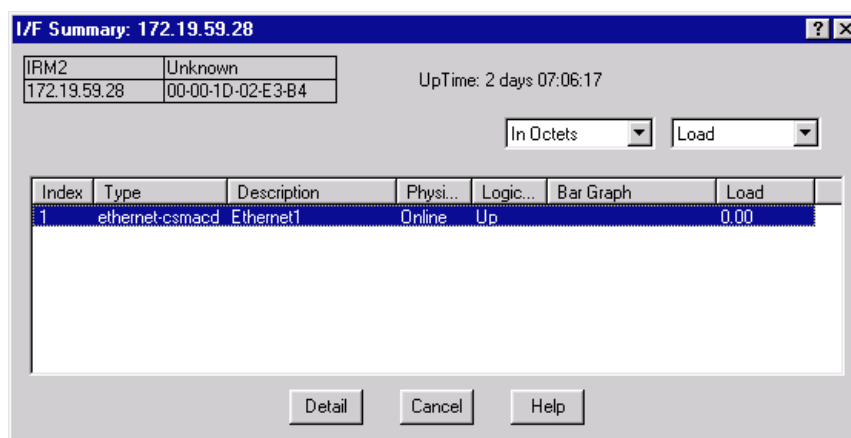

Figure 2-11. I/F Summary Window
2. Click again to select **I/F Summary**, and release. The I/F Summary window, Figure 2-11, will appear.